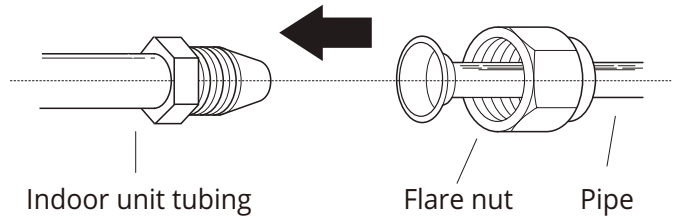

Fig 6.7
1. Align the center of the two pipes that you will connect. See **Fig. 6.7**.